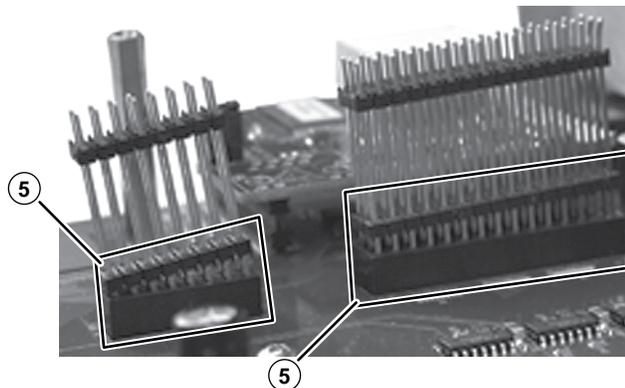

Figure 7-8 — Connector extensions
4. Align one or both connector extension(s) with J1 and J2A/J2B on the main board (②). Gently apply pressure to carefully mate the extension(s) with the main board (figure 7-8).